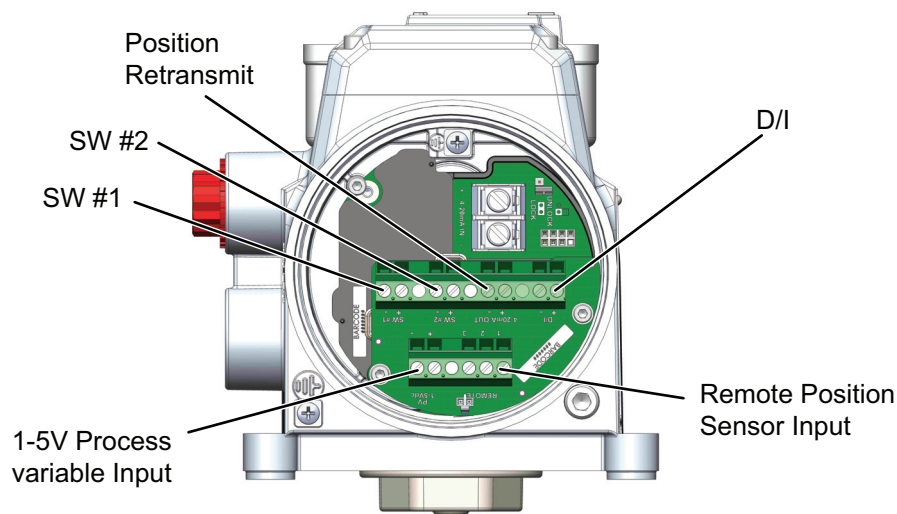

Figure 18 Connections to Options Electronics Module (via Terminal Board)
3. Locate the correct terminal block on the Options Module (see Figure 18).